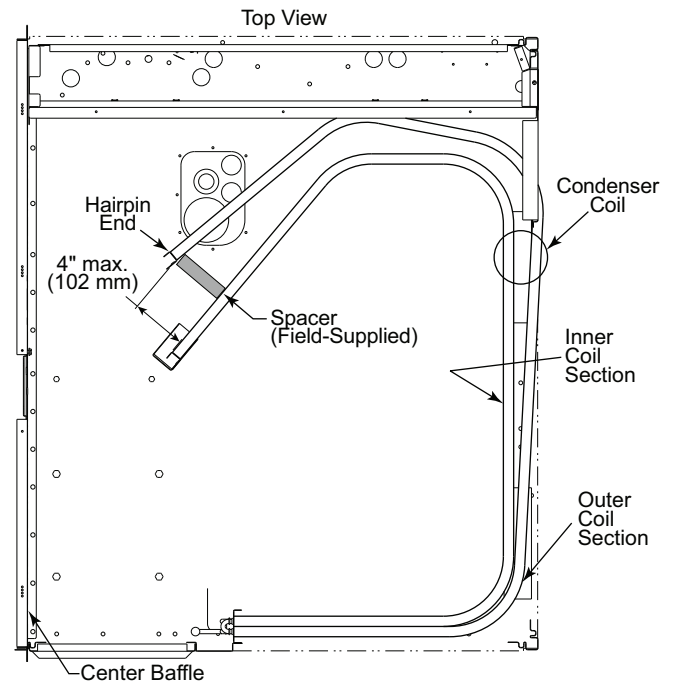

Fig. 21 — Separating Coil Sections
8. Insert a spacer (field-supplied) between the tube sheets to hold the coils apart. See Fig. 21.